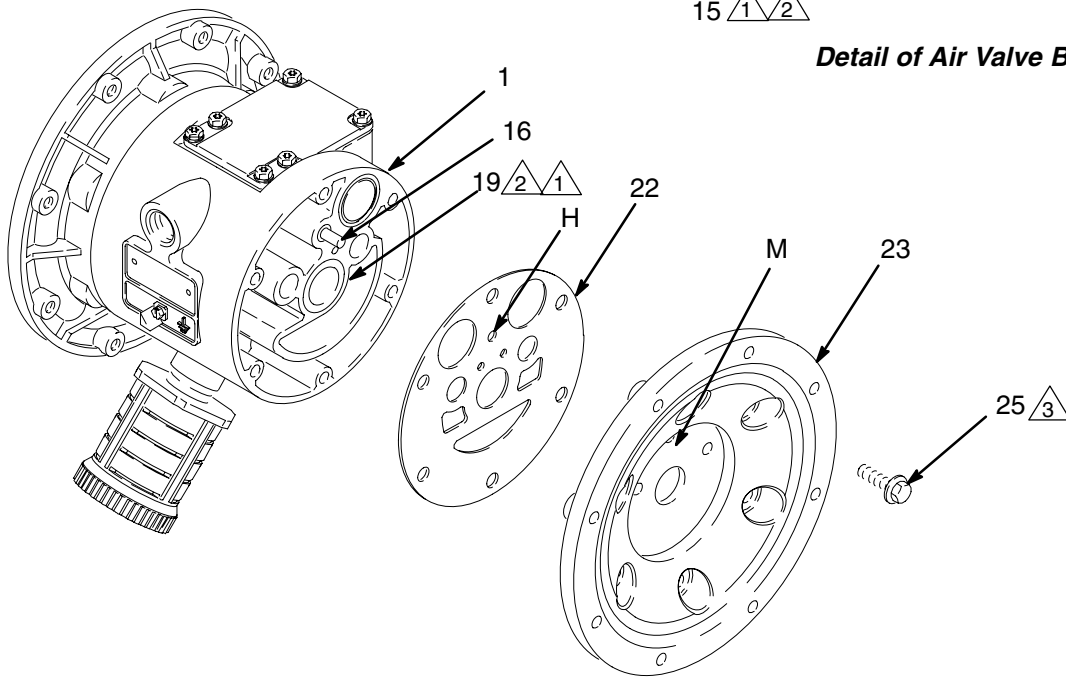

Fig. 15
- NOTE:** If you are removing only the diaphragm shaft bearing (19), skip step 4.
5. Using a 10 mm socket wrench, remove the screws (25) holding the air covers (23) to the center housing (1). See Fig. 15.
6. Remove the air cover gaskets (22). Always replace the gaskets with new ones.
7. Use a bearing puller to remove the diaphragm shaft bearings (19), air valve bearings (12) or pilot pin bearings (15). Do not remove undamaged bearings.
1. If removed, install the shaft u-cup packings (402*) so the lips face **out** of the housing (1).
2. The bearings (12, 15, and 19) are tapered and can only be installed one way. Insert the bearings into the center housing (1), **tapered end first**. Using a press or a block and rubber mallet, press-fit the bearing so it is flush with the surface of the center housing.
4. Align the new air cover gasket (22) so the pilot pin (16) protruding from the center housing (1) fits through the proper hole (H) in the gasket.
5. Align the air cover (23) so the pilot pin (16) fits in the middle hole (M) of the three small holes near the center of the cover. Install the screws (25), handtight. Apply medium-strength (blue) Loctite® or equivalent to the threads of the screws (25). See Fig. 15. Using a 10 mm socket wrench, torque the screws oppositely and evenly to 130–150 in-lb (15–17 N•m).